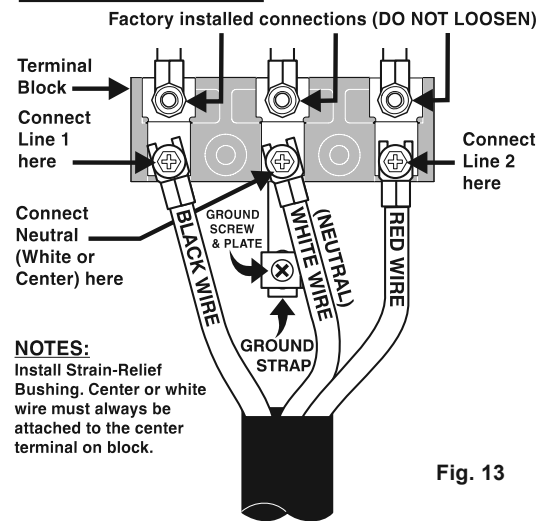

Fig. 13
(3-Wire Connection Instructions . For existing installations ONLY - Refer to Fig. 13).
- Insert the end connectors for Line 1, Line 2 and Neutral and tighten securely to the terminal block (See Fig. 13).
Grounding Instructions (3-Wire Connections only): A ground strap is installed on this range which connects the center terminal of the terminal block (Neutral) to the range chassis. The ground strap is connected to the range by the center, lowest screw (See Fig. 13). The ground strap must not be removed unless National, State or Local Codes do not permit use of a ground strap.